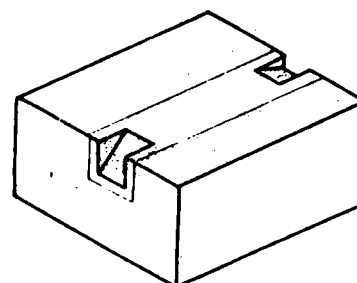

Fig. 4
3. To make the initial cuts easier, and to prevent the cuttings from breaking off at the tracing, sometimes chamfers are cut at both ends (Fig. 4).